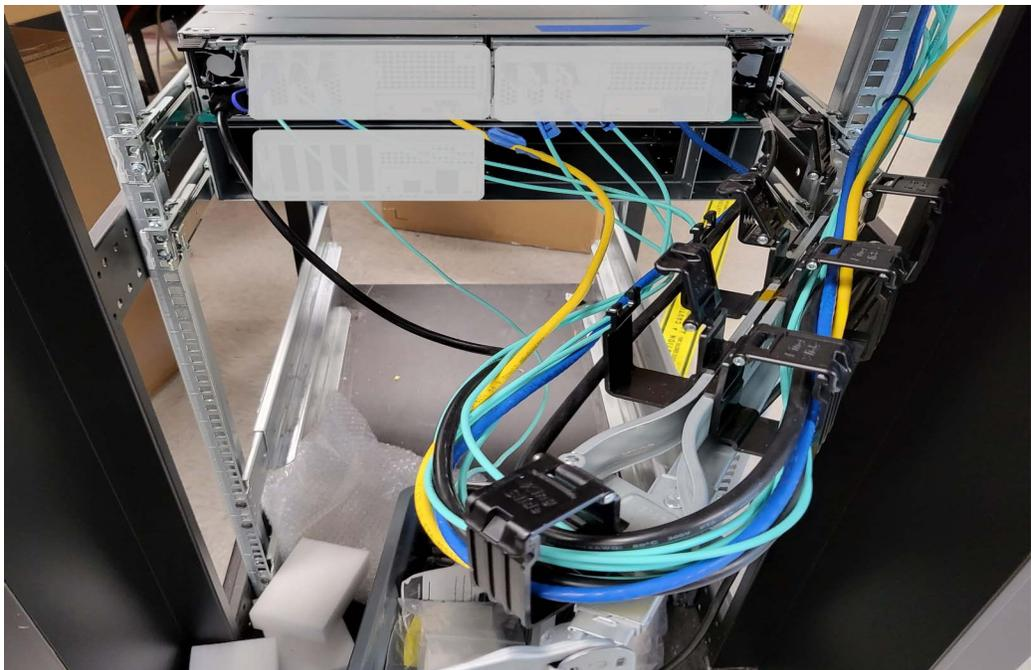

Figure 8.8 CMA body side cleared
3. Swing the CMA arm outward, as shown in Figure 8.8.